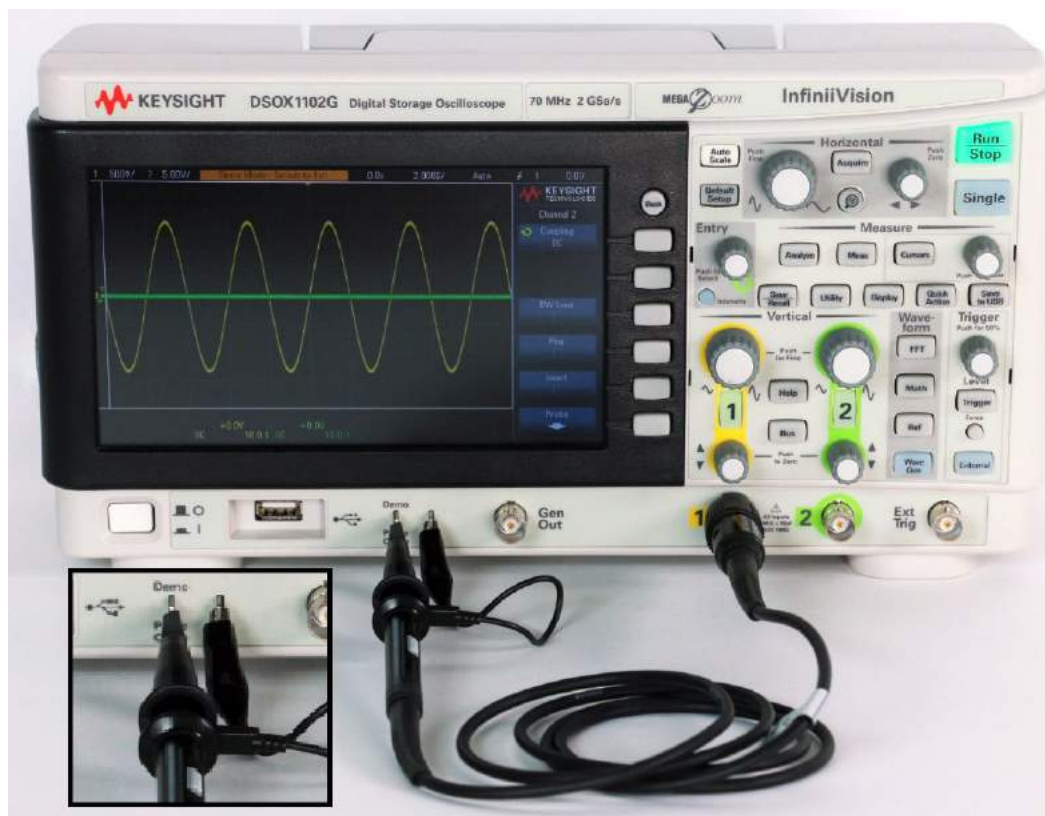

Figure 8 Connecting probe between the channel-1 input and the training signal output terminal
- 1 Connect one oscilloscope probe between the channel-1 input BNC and the output terminal labeled "Demo" as shown in **Figure 8**. Connect this probe's ground clip to the center terminal (ground).